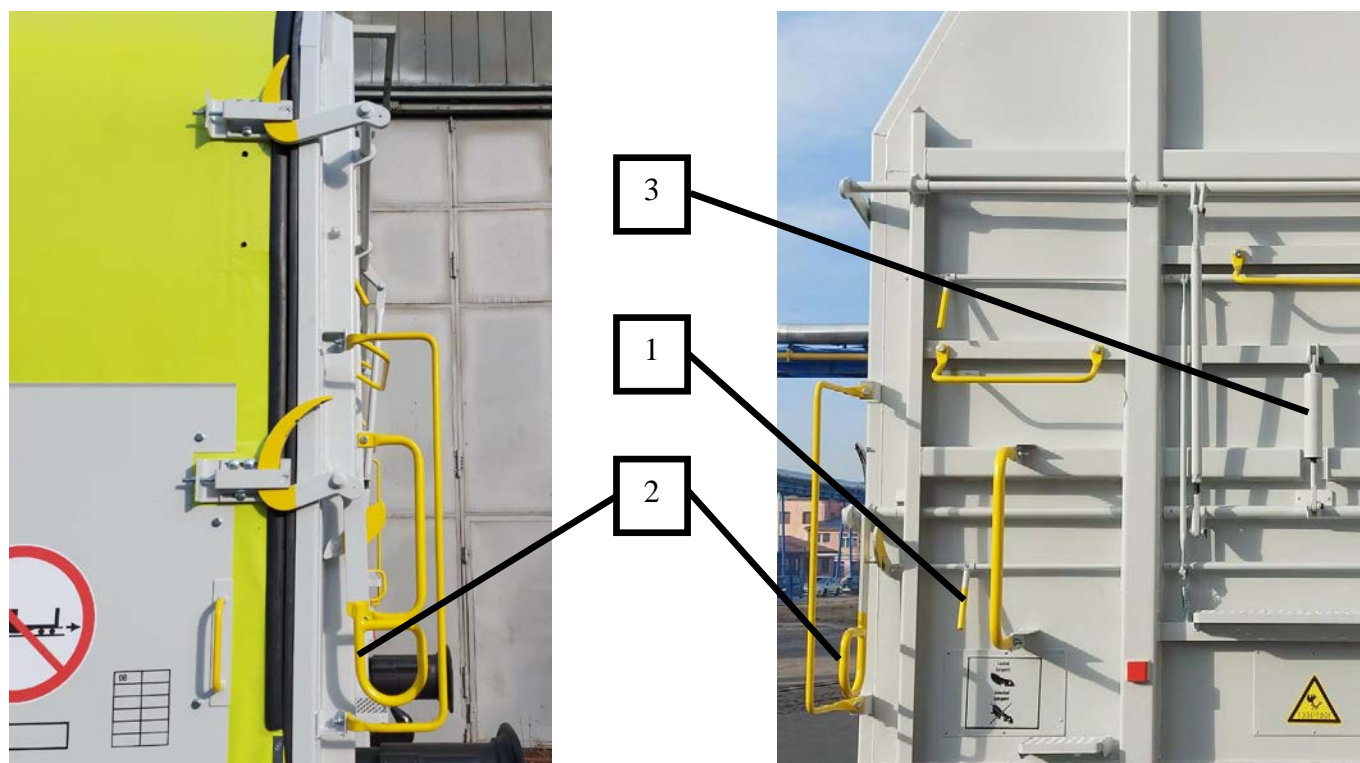

Figure 1 Mechanism for locking tarpaulin
The wagon is equipped with a locking mechanism on each front wall. The locking mechanism is operated from the unloading platform, but it is also possible to operate it from the ground. Locking and unlocking is performed on one side of the wagon. The mechanism is unlocked by lifting handle (1) in figure 1, which releases the main lever of the locking mechanism (2).